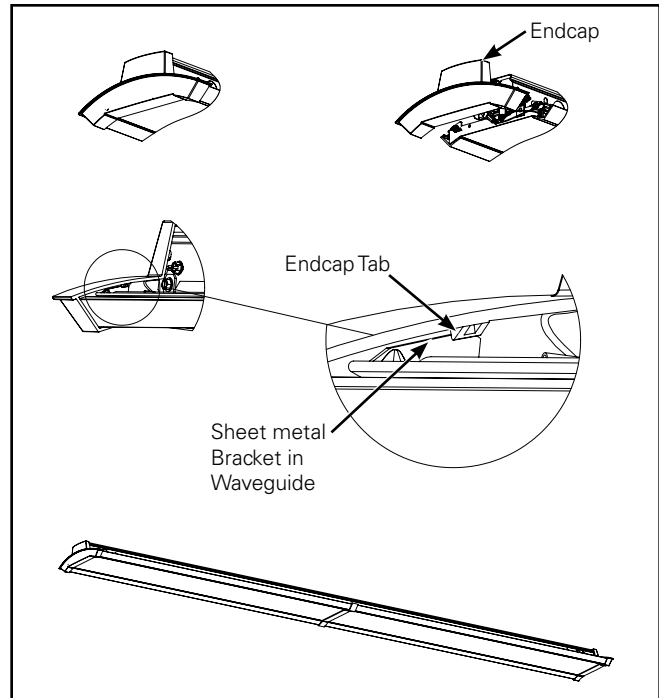

Figure 15.
- Remove endcaps from parts box, install Endcap to fixture. Tuck wire harnesses and safety cable while installing. Endcap tabs must fully engage in the metal bracket. (Figure 15.)